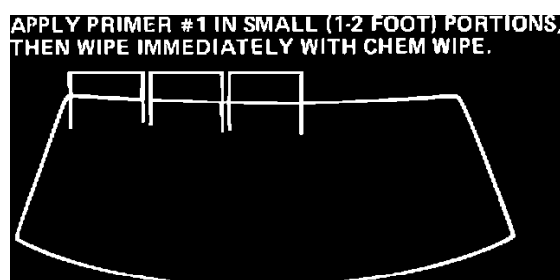

FIGURE 4
6. Using the wool dabber, apply Cleaner-primer bottle # 1 around the windshield edge Figure 4. The primer sets very quickly and must be wiped off while still wet (within seconds of application). Do only 1 or 2 feet of the windshield edge at a time, then quickly wipe clean with the chem wipe provided in the kit. DO NOT touch after cleaning.